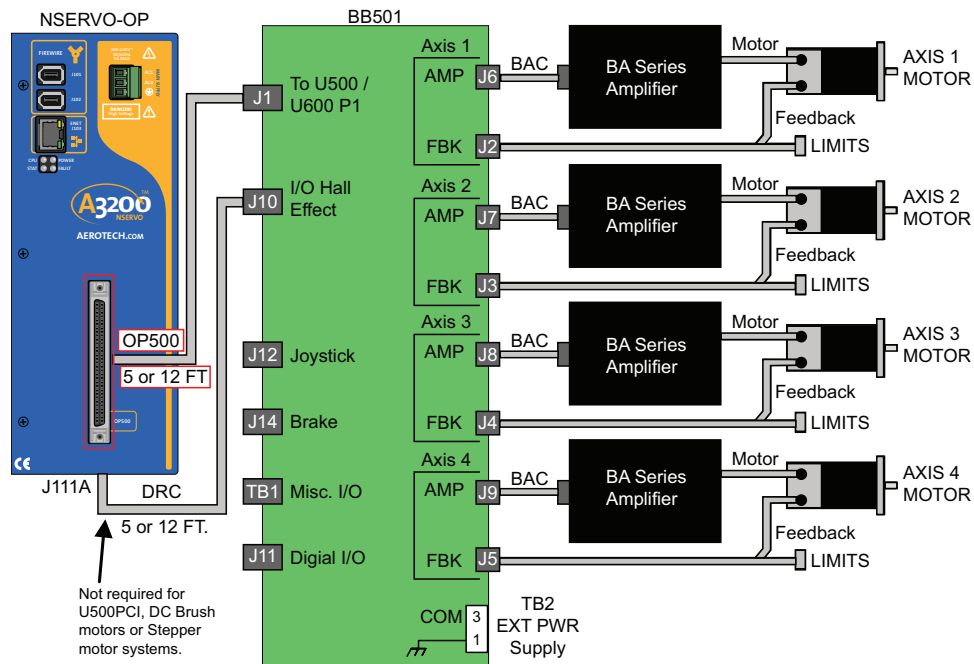
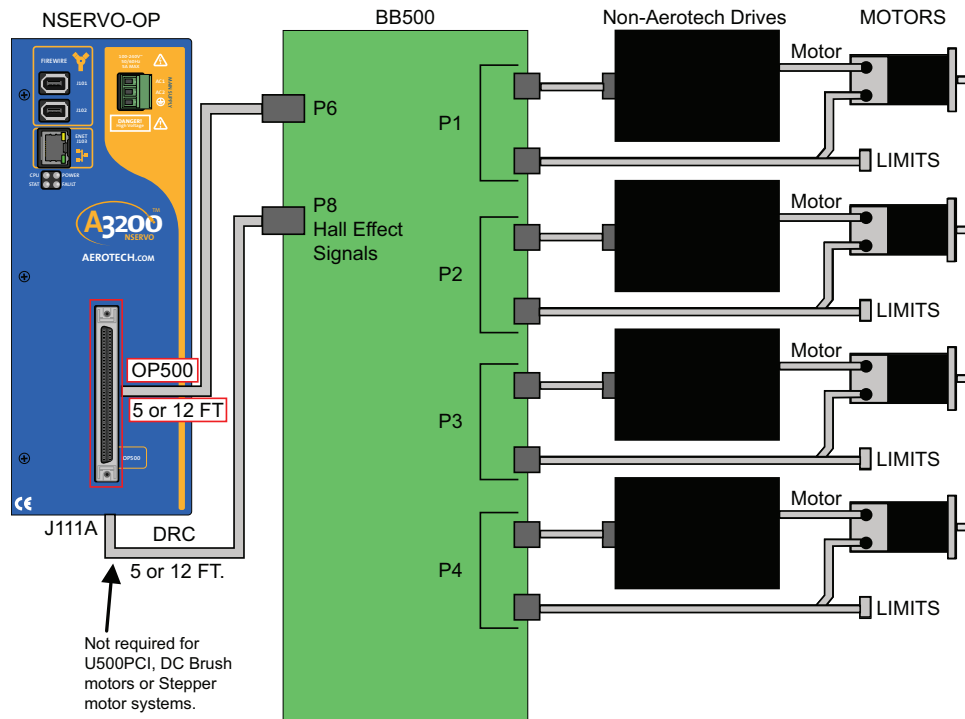

Figure 2-14: Connecting the Nservo-OP to a BB501 System
Figure 2-15: Connecting the Nservo-OP to a BB500 System
**NOTE:** A DC Brush motor, stepper drive, or U500PCI system requires one less cable than the other configurations because it does not require Hall-effect feedback signals to the Nservo-OP, as shown in Figure 2-14, Figure 2-15, and Figure 2-16.